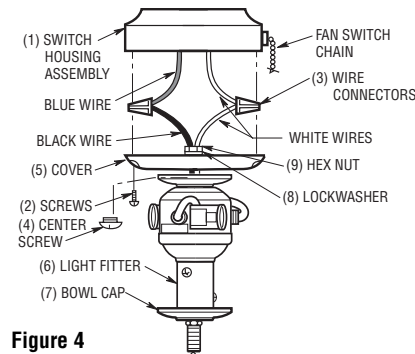

Figure 4
2. Remove the cover(5) from the fan switch housing(1) by removing the two outer screws(2). (See Figure 4).